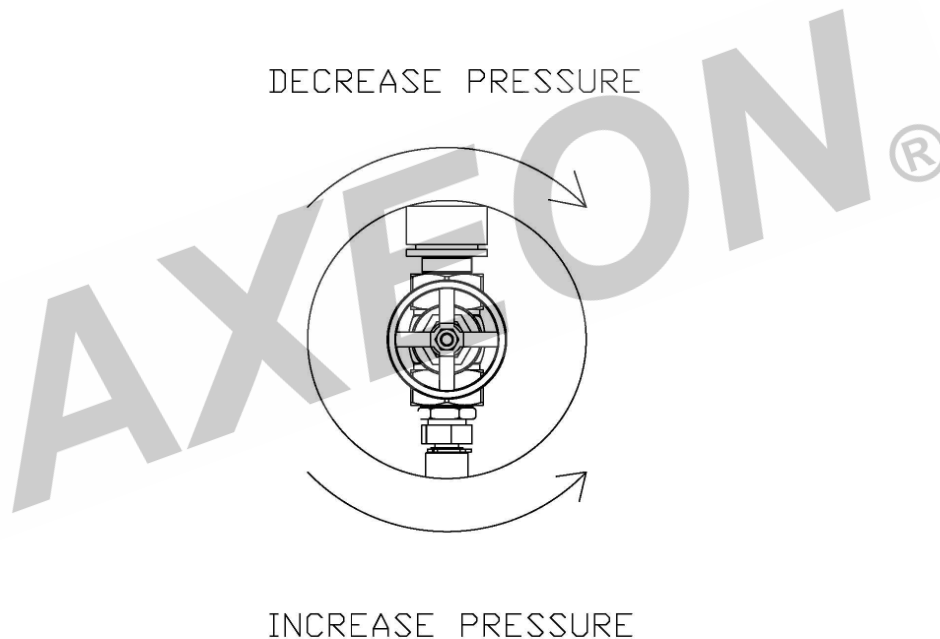

FIGURE 3
6. Turn the RO system on #9 and adjust the concentrate (waste) valve #11, recycle valve # 10 (if applicable), and the throttle valve to the designed flow and pressure. (Figure 3, Page 28)
To decrease the pressure, turn the handle clockwise. To increase the pressure, turn the handle counter clockwise. (Figure 3, Page 28)